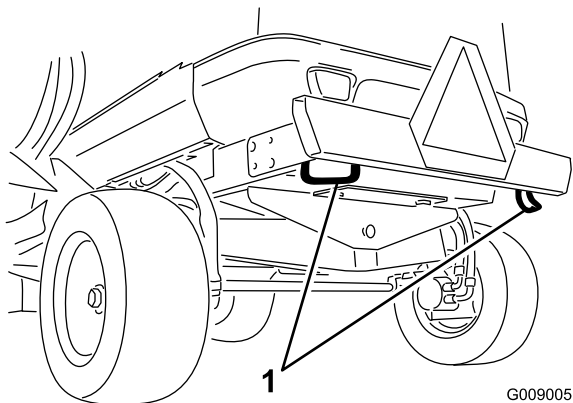

Figure 41
1. Front tie down (2)
- The rear bumper (2 places) (Figure 41).